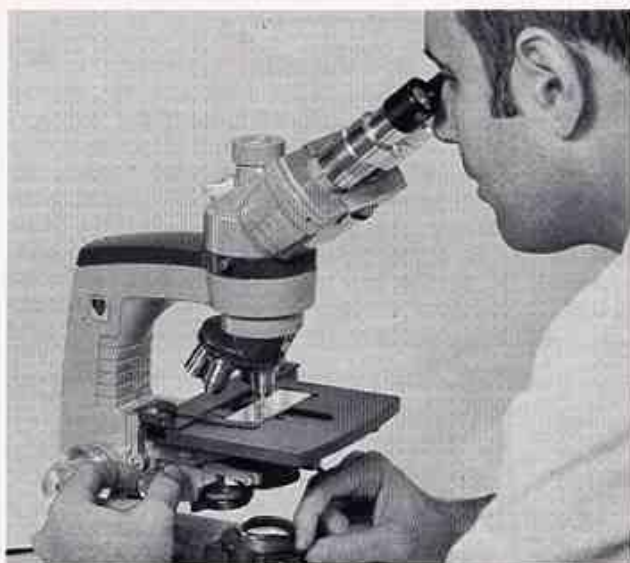

Figure 35. Viewing the Back Aperture
8. While viewing thru the microscope, partially close the field diaphragm (move lever approximately 1" to the right as shown in figure 35) so that the iris diaphragm leaves are imaged within the field of view. Bring the leaves into sharp focus by raising or lowering the condenser by means of the condenser rack and pinion knob without disturbing the fine adjustment knob setting.